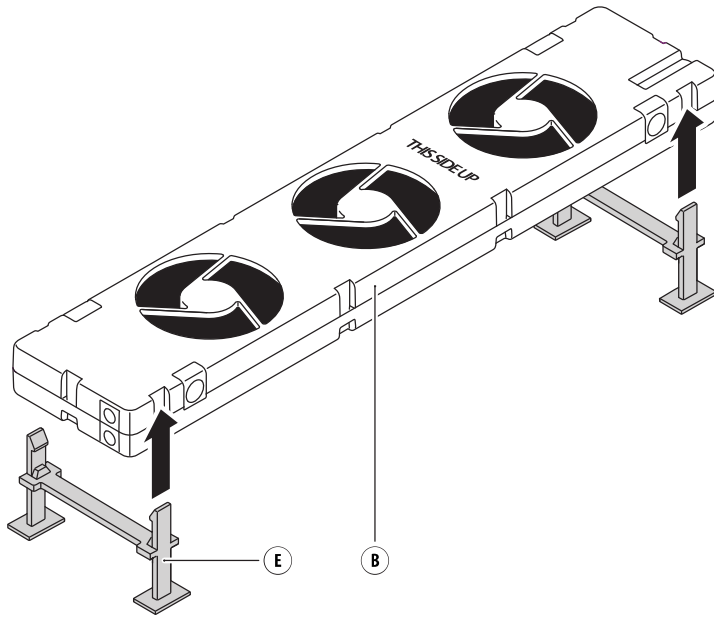

Fig. 8 - Attach a foot (E1 or E2).
1. Attach the **feet** (E1, E2) to the **SpeedComfort** (B1) by clicking them into the **slots** (b3, b4) (see fig. 8).